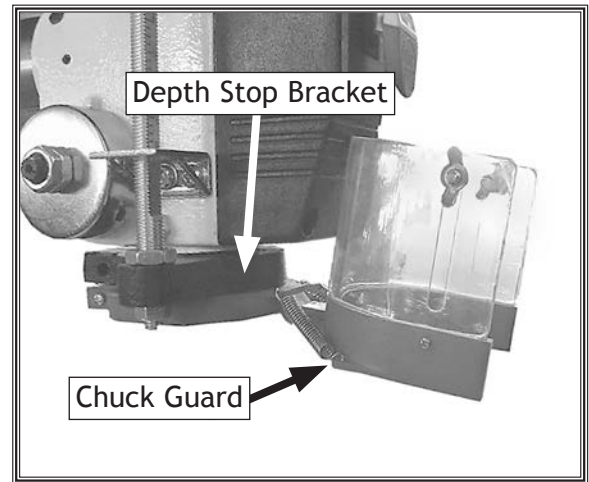

Figure 24. Chuck guard installed on depth stop bracket.
21. Slide chuck guard onto bottom of depth stop bracket, as shown in **Figure 24**.